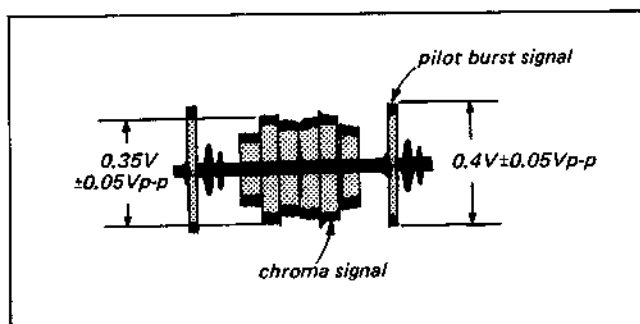

Fig. 4-4-27. Chroma record current adjustment
- (1) Supply the VTR with the colour bar signal and set up the E-E mode.
- (2) Connect the oscilloscope to TP26 (emitter of Q56).
- (3) Adjust RV20 for a chroma signal level of 0.35 V ± 0.05 Vp-p. (See Fig. 4-4-27.)
- (4) Check that the level of the pilot burst signal is 0.4 V ± 0.05 Vp-p. If not, adjust RV18. (See Fig. 4-4-27.)